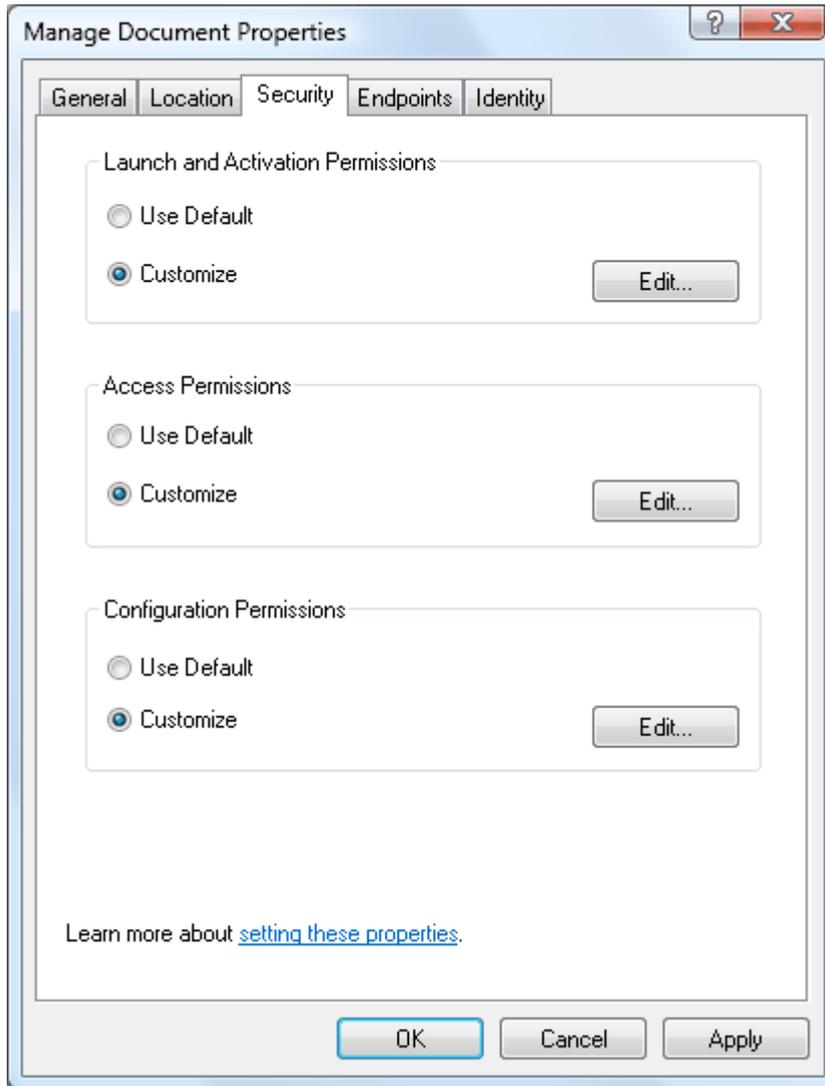

Figure 4-19: Manage Document Properties-Security Tab
1. Select the Security tab as shown in Figure 4-19: